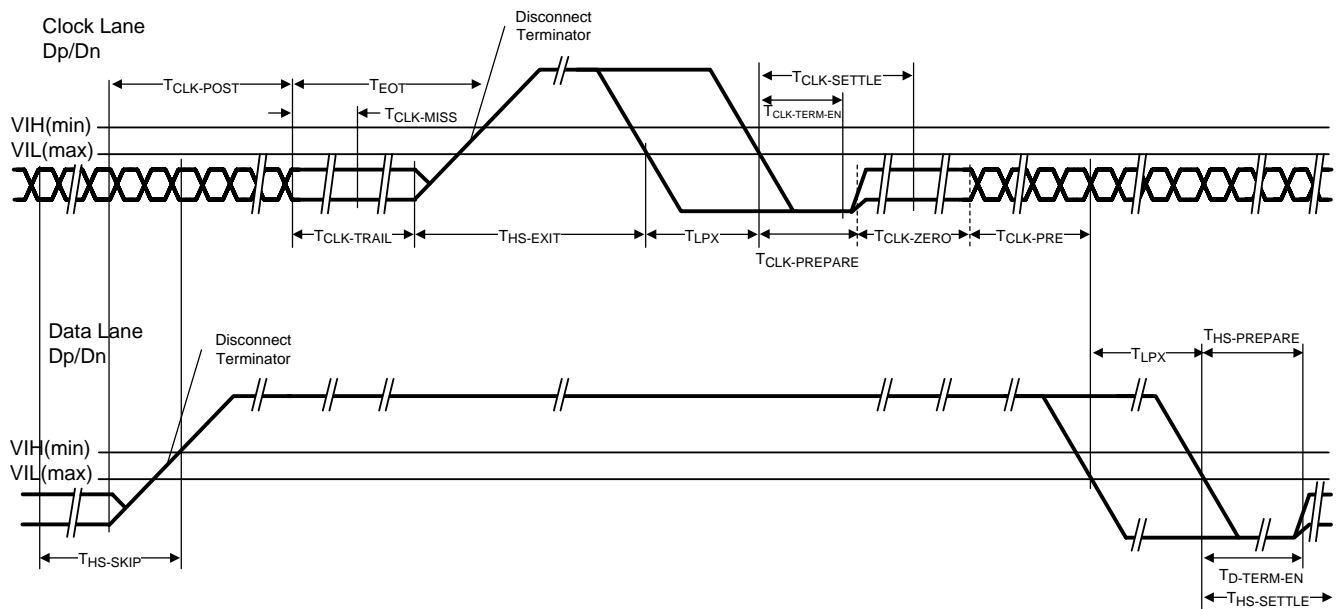

Figure 12. Switching the Clock Lane between Clock Transmission and Low-Power Mode
CSI-2 TIMING SPECIFICATIONS (1) (Figure 11, Figure 12)